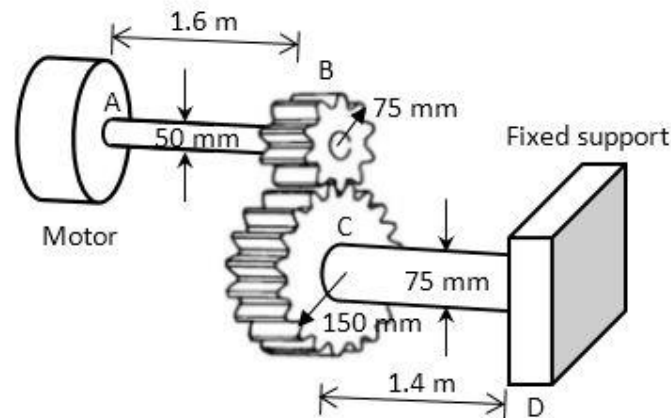

Figure 5
4. (a) **Figure 5** shows two shafts connected by the gears. End A of the shaft is connected to a motor while end D is fixed at the support. When the motor operates, the power from the motor will be transmitted through transmission shafts. Sketch the twisting moment produced by the motor and that transmitted to the machine at gears using curved arrows.
- (b) The diameters of shaft AB and CD in **Figure 5** are 50 mm and 75 mm, respectively. The length AB is 1.6 m and the length CD is 1.4 m. Gear at B has a radius of 75 mm and gear at C has a radius of 150 mm. The motor produces 180 kW power at a frequency of 30 Hz. Given the shear modulus of elasticity of the material is 77 GPa.